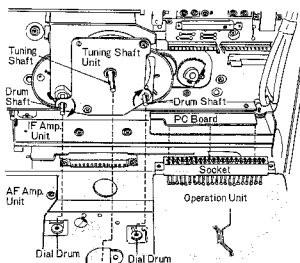

Fig. 16
1. Turn each drum shaft completely in the direction of arrows, as shown in fig. 16.
2. Insert drum shaft, tuning shaft and PC board of IF amp. unit in the position shown in fig. 16.